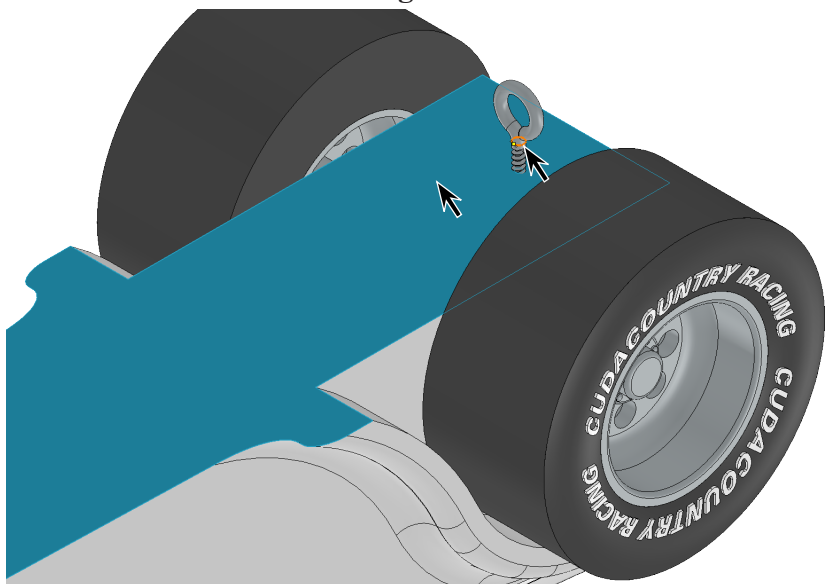

Fig. 33
Step 10. Click **bottom face of Body** and **circular edge of the Eye Screw**, Fig. 33.